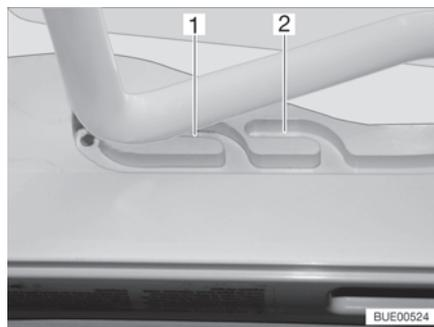
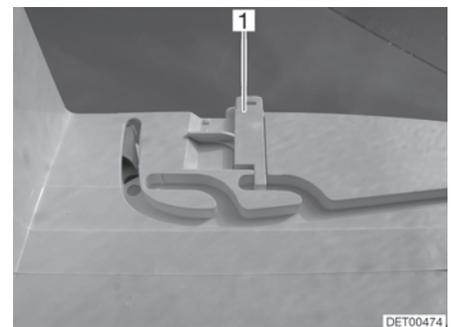

Fig. 109 Heki skylight in ventilation position
Fig. 110 Ventilation position locking mechanism
The Heki skylight can be put in two ventilation positions: Bad weather position (Fig. 109,1) and central position (Fig. 109,2). Depending on the model, the skylight can be locked in the central position with both left and right latches (Fig. 110,1) on the skylight frame.
- Push the bar slightly upwards and into the selected guide (Fig. 109,1 or 2) and lock if necessary.